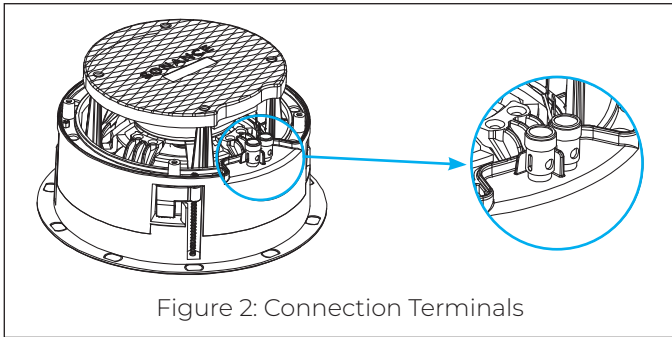

Figure 2: Connection Terminals
- The speaker's connector posts are spring-loaded. Push the top of each connector post down to open the connector and insert the exposed wires into the holes in the posts (see Figure 2).